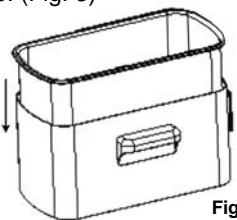

Fig. 1
1. Place the oil reservoir into the deep fryer housing. (Fig. 1)